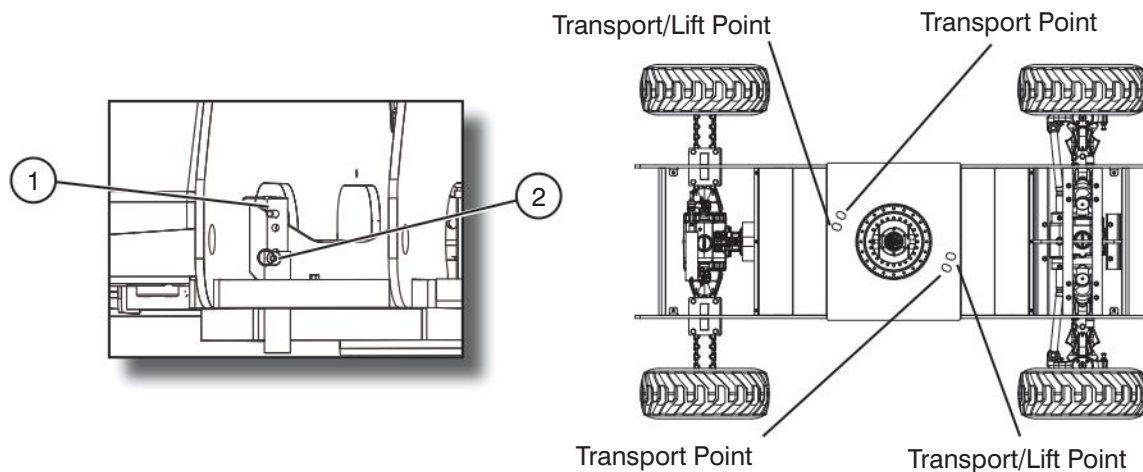

Figure 3-7. Turret Transportation Lock & Locking Points
1. Ensure that turret is positioned so that turret transportation lock (item 1 - Figure 3-7) is aligned into one of four turret locking points.
2. Pull out turret lock retaining pin (item 2 - Figure 3-7). Lower turret lock into locked position and reinsert turret lock retaining pin.
1. Place boom in stowed position (boom lowered and fully retracted, jib fully down, if equipped) centered between drive wheels. Lock turret using turret transportation locking pin (refer to Section 3.10-2) into one of two transport/lift points only (refer to Figure 3-7).